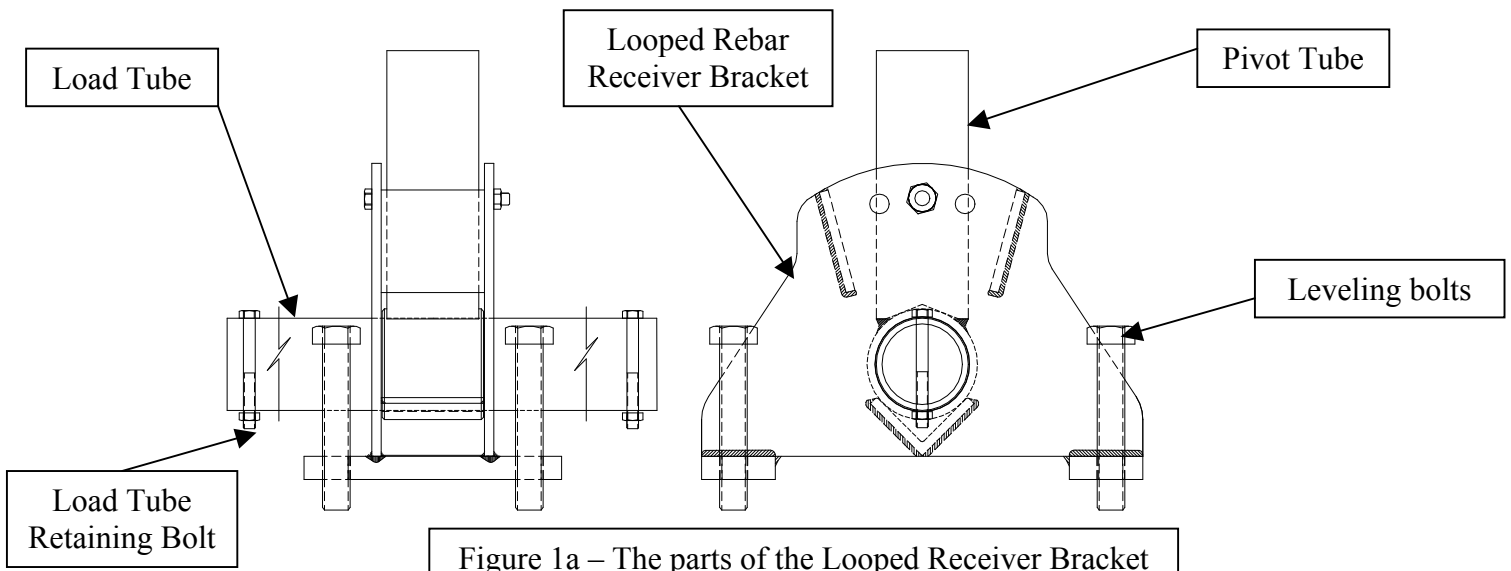
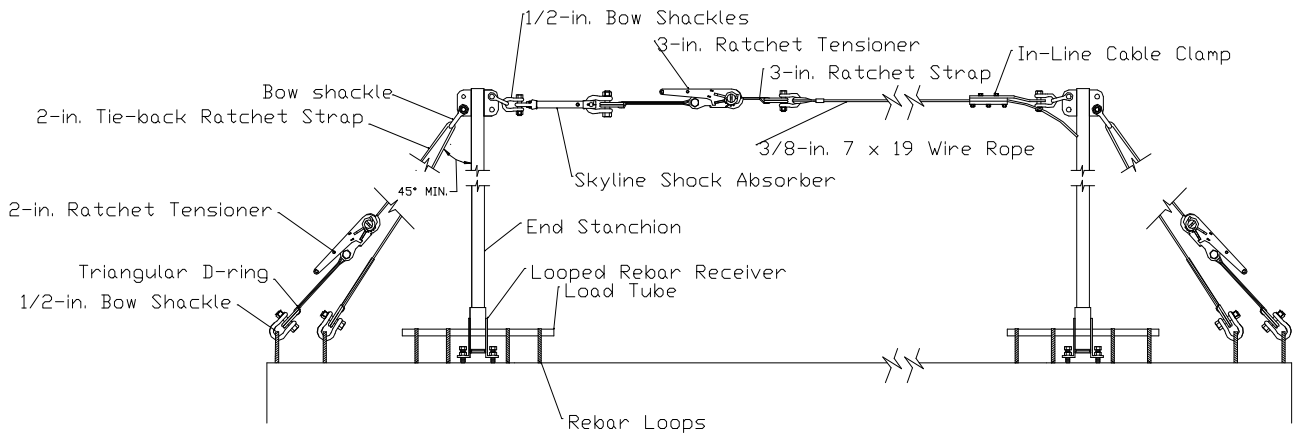

Figure 1a – The parts of the Looped Receiver Bracket
Figure 1b
1. Remove the Receiver Load Tube bolt and Load Tube from the Looped Rebar Receiver (see Figure 1a or Figure 1b for parts identification). Place Receiver between rebar loops. Note: Rebar loops must be Grade 40 or Grade 60 rebar, Size 4 (1/2-in.) or larger.
12. Pass the 2-in. Ratchet Strap up through the 5/8-in. bow shackle that is attached to the end stanchion and then thread it into the mandrel of the Ratchet Tensioner and ratchet until tight (see Figure 1b). Verify that the webbing makes **AT LEAST** one full revolution on the mandrel. If it does not, release the load, pull a couple of inches of strap out, and then retighten to achieve the minimum one full wrap of webbing on the mandrel.
14. Repeat Steps 1 through 8 to install Looped Rebar Receivers with Bypass Stanchions at the correct location as required for your particular horizontal lifeline design. If there are **ANY** questions regarding the design or suitability of a horizontal lifeline in a particular situation, call Reliance Engineering at (303) 424-8650, BEORE proceeding with the setup or use of any lifeline.